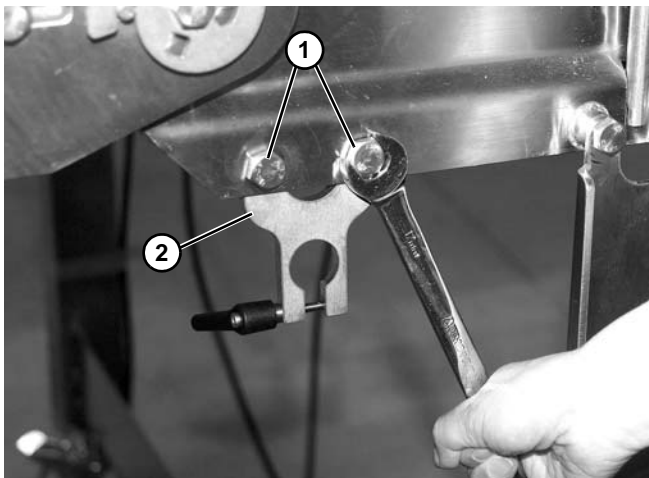

Figure 73
6. Remove two screws (**Figure 73, item 1**) and scraper mount plate (**Figure 73, item 1**). Repeat for scraper adjust plate, if needed.